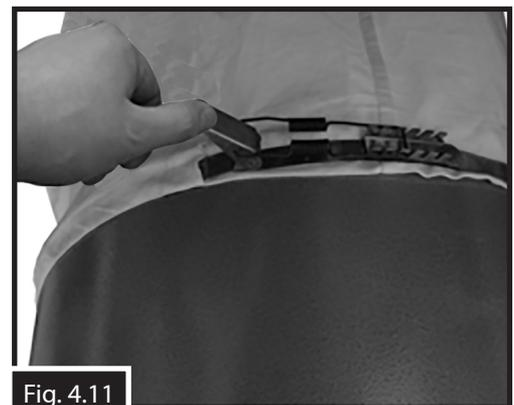

Fig. 4.11
13. Insert toothed-end of each bag clamp into opening of bag rim, then slide it completely around rim cavity to meet other end (see Fig. 4.11).